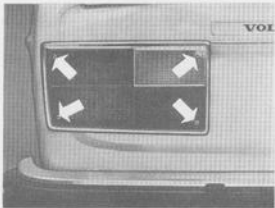

Fig. 3-116. Removing glass, rear light lens
1. Screw loose the four screws holding the glass, see Fig. 3-116, and lift off the glass.